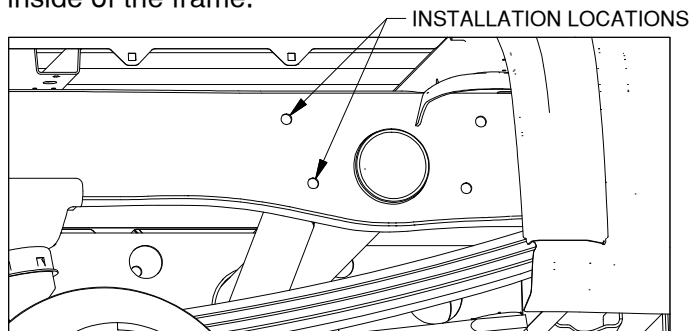

Figure B3: View looking into driver side wheel well.
4. **Prepare for hardware installation.** Start by locating four 1/2" x 2" carriage bolts, two locking straps, four bolt retainers, and four fish wires. Identify the two hole locations on the outside of the frame where the bolts will install, as shown in Figure B3. Each of these two holes have a larger clearance hole on the inside of the frame.